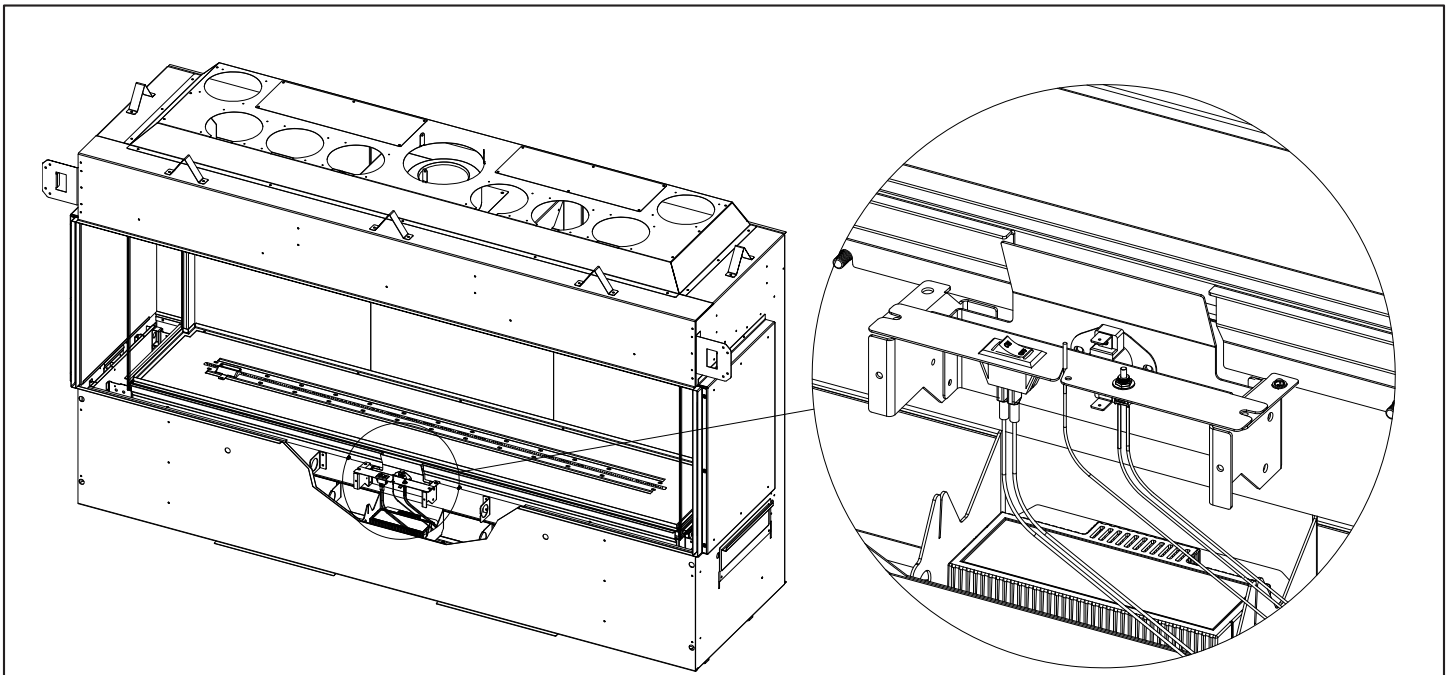

Figure 7.18 - Switch Panel
4. Remove the (2) sheet metal screws that secure the switch panel. Lift this panel off its support bracket and locate the slits in the control module brackets. Slide the switch panel into these openings to secure it during control board removal. Figure 7.18 and 7.19.